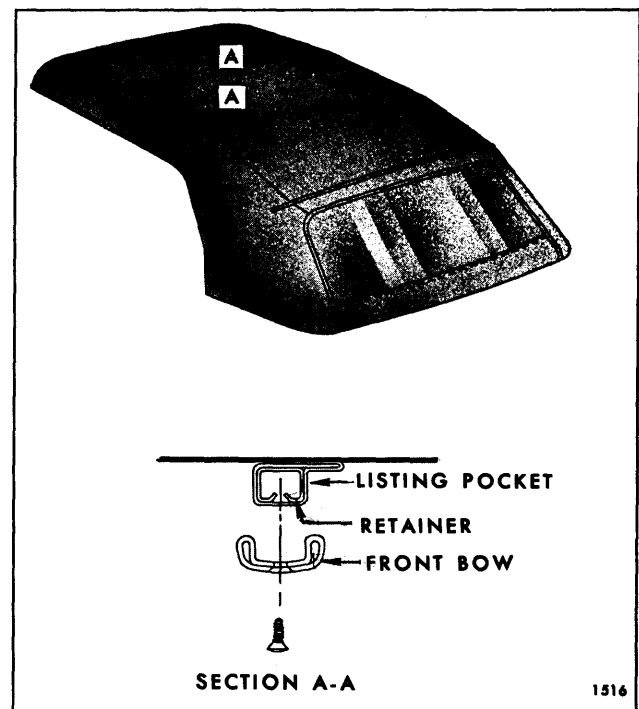

Fig. 13-26—Listing Pocket Retainer
12. Insert and center retainer in top cover listing pocket at front roof bow. Position retainer on front bow and install attaching screws (Fig. 13-26).
8. At underside of front bow, (Fig. 13-26) remove screws securing listing pocket retainer to front bow. Disengage retainer from bow and remove retainer from listing pocket. Note location of screws before removal.
6. Insert and center retainer in top cover listing pocket at front roof bow. Position retainer on front bow and install attaching screws (Fig. 13-26).